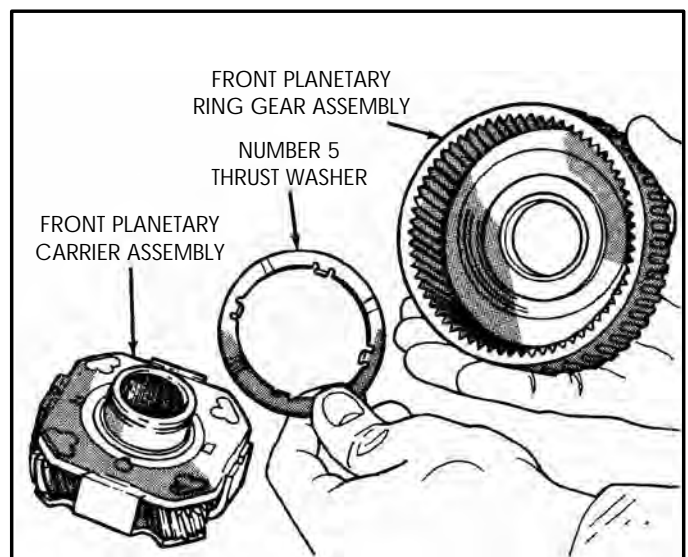

Figure 63
3. Remove planetary ring gear and the number 5 thrust washer, as shown in Figure 63.
10. Install the number 5 thrust washer on top of the front planetary and lube with small amount of Trans-Jel®, as shown in Figure 63.
11. Install the ring gear onto the front planetary using a rotating motion to engage ring gear with planetary pinions (See Figure 63).